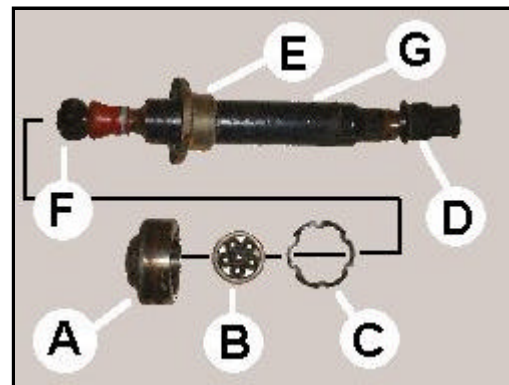

Figure 1
108. The cap on the propshaft (Fig.1-D), adjacent to the first rubber mounting, has already been released as in para.105. It will not yet be readily visible, but there is a splined nylon collar inside the cap which compresses to grip the splined shaft when the cap is tightened.
109. Move the cap and its rubber end to the rear of the shaft, i.e. towards the rubber mounted universal joint, and proceed to pull the short shaft (Fig.1-G) to the front of the vehicle to disengage the splined units. The shaft can then be taken away for overhaul/rebuilding.
110. Ensure both caps (Fig.1-A) are released from the CV joint body and if the joint is not already apart manoeuvre it to recover the six large ball bearings. The component parts are:
* The short shaft with inner CV bearing tracks on one end. (Fig.1-G)
* The screw on cap with threaded nylon insert and rubber boot. (Fig.1-D)
* The outer cage which only fits the joint one way. (Fig.1-B)
* The main body of the joint. (Fig.1-A) & (Fig.2A)
* Six ball bearings. (Fig.1-B) & (Fig.2-D)
* Two end caps. (Fig.1-A & E)
* Two rubber gaskets. (Fig.1-C) & (Fig.2-B)